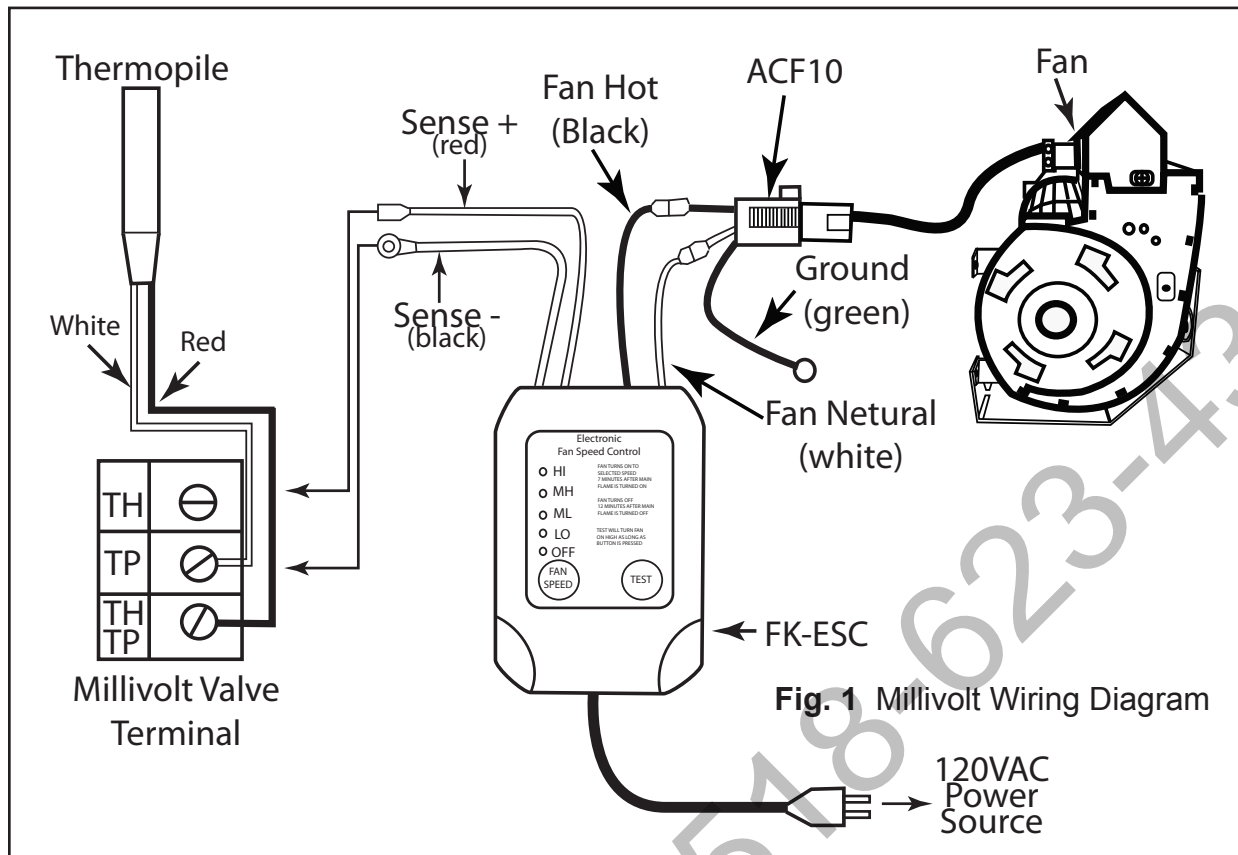

Fig. 1 Millivolt Wiring Diagram
1. Ensure ALL wires are properly secured and placed on the correct terminals of the gas valve (Figs. 1 & 2) This is a polarity sensitive system; if wires are reversed it will not turn OFF the fan.